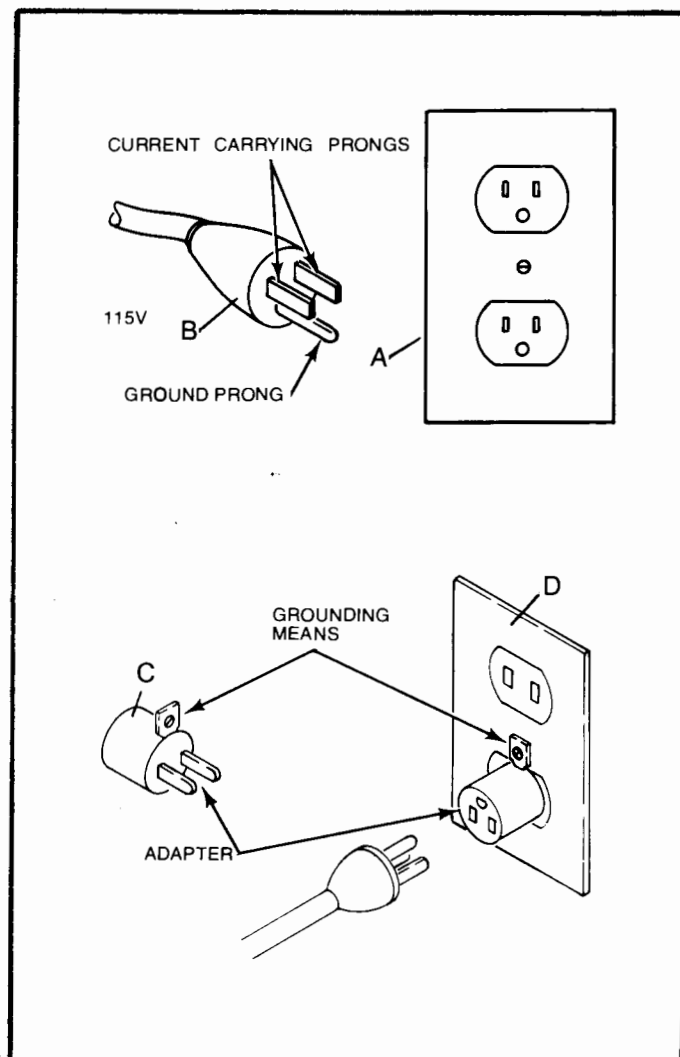

Fig. 7
This bandsaw is designed for use on a circuit with an outlet that looks like (A) in Figure 7. The bandsaw has a grounding prong as illustrated in (B). A temporary adapter (C) may be used to connect the plug to a two pole receptacle (D) if a properly grounded outlet is not available. The temporary adapter should only be used until a properly grounded outlet can be installed by a qualified electrician. The green colored lug must be securely fastened to the cover plate screw.